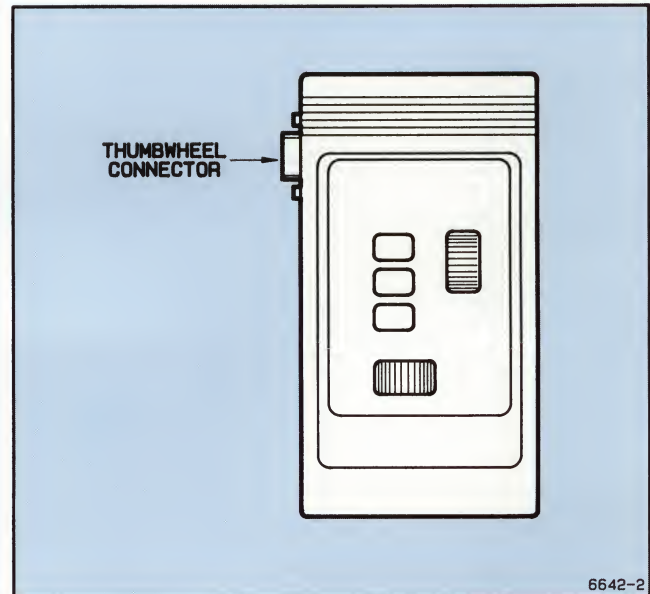

Figure 2-6. Thumbwheel Assembly.
2. If you have the optional thumbwheel assembly (as shown in Figure 2-6), attach it to the right side of the keyboard.